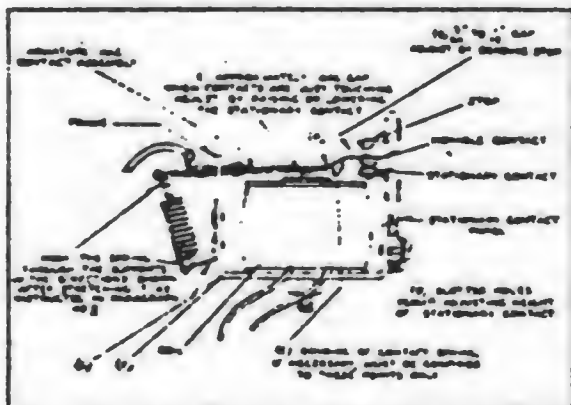

FIG. 37 BATTERY CHARGING RELAY
**b. Battery Charging Relay.**—The battery charging relay requires little attention. Do not disturb the factory adjustment unnecessarily. If the adjustment has been disturbed, or a new part has been installed, a definite procedure must be followed in making correct adjustments. Refer to (Fig. 37) in connection with these instructions.
(1) With the coil assembly installed in the frame and the nut securely tightened, place the armature and contact assembly in position. The contact spring rests against the armature at the point (A) with a pressure of about one pound. If this tension has been lost, install a new armature and contact assembly.
(2) Install the stationary contact panel with contact. The screw holes are elongated to permit adjusting.
(3) Adjust the gap (C) to approximately .040" by raising or lowering the stationary contact as permitted by slotted holes (D). Measure this gap with a thickness gauge when contacts are just touching.
(4) See that contacts set squarely together when the armature is entirely down and that they make contact at the centers of the contact surfaces. If necessary, bend the frame slightly at point (F) and the contact arm at points (E) to obtain correct alignment. After bending at either point it will be necessary to readjust gap (C).
(5) Adjust gap (B) to between  $3/64$ " and  $1/16$ " by bending the stop as required.
(6) If a new spring is to be installed, it must be stretched very carefully before assembling. The coils of a new spring rest tightly together with some tension. Stretch just enough so a very small clearance remains between coils when released, just enough clearance so coils do not touch. If clearance is too great, discard the spring.
(7) Install the spring with the hooks attached in exactly the directions shown in (Fig. 37).
(8) Adjust the spring tension so that 10 volts direct-current applied to the coil will close the contacts forcibly but 8 volts will not be sufficient to close them. Use 5 cells of the battery to obtain 10 volts, 4 cells to obtain 8 volts. To increase the spring tension, bend the lower loop up closer to the first coil. If more tension is needed than obtainable in this manner, bend the support downward at (G). To reduce the tension, bend the support upward.